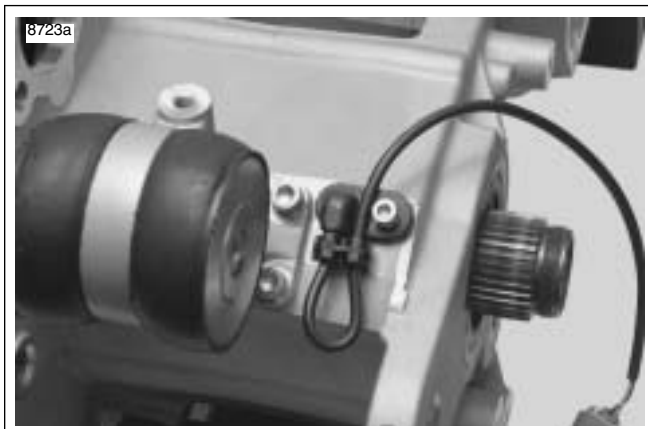

Figure 3-31. Rear Isolator and Mounting Hardware
40. See Figure 3-31. If the crankcases are being separated it will be necessary to remove rear isolator assembly by removing the forward two fasteners first and then the two rear fasteners (re-install with **new** fasteners).